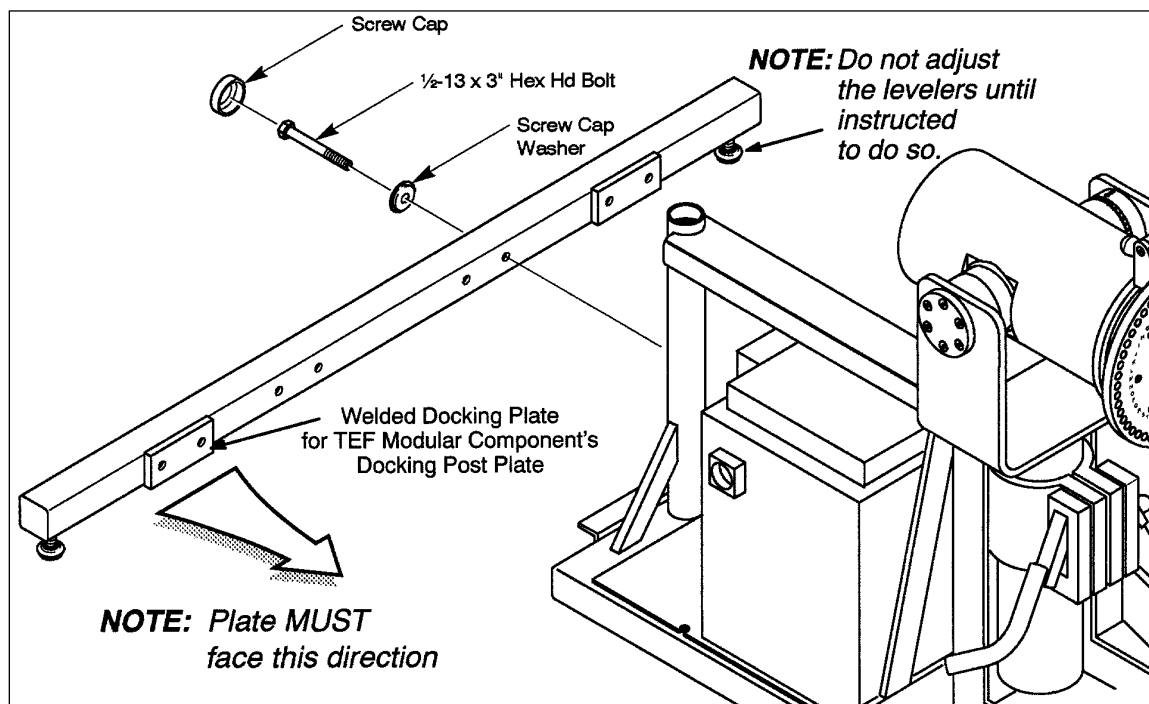

Figure 3-1. Rear Support Leg and Electronics Module.
1. Position rear support leg and Electronics Module near wall where system is to be permanently installed. Rear Support Leg must be oriented as shown in *Figure 3-1*.